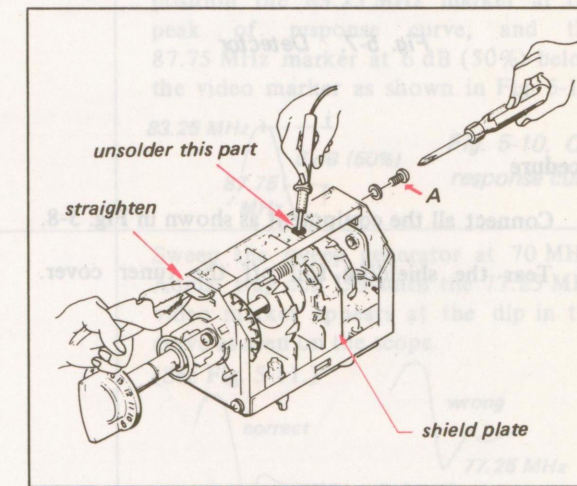

Fig. 5-5. Tuner shaft assembly removal (2)
3. Straighten the bent portion of the prop plate with pliers as shown in Fig. 5-5.
4. Unsolder the shield plate that is located on the prop plate as shown in Fig. 5-5.
5. Remove a screw labeled A in Fig. 5-5.